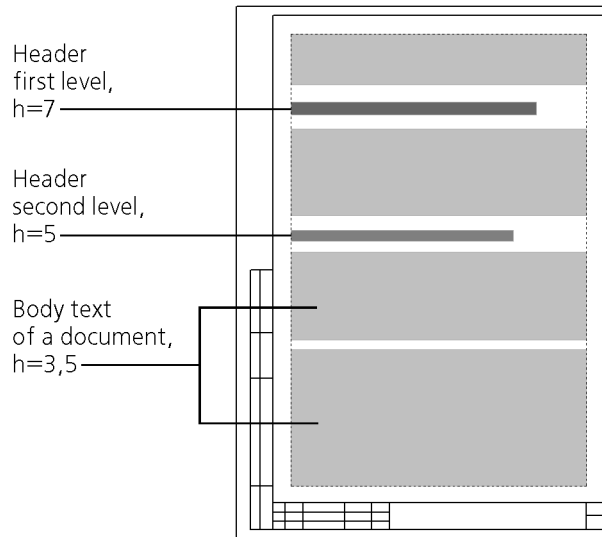

Fig. 9.6. Page layout
**3.2.2** Create text styles allowing formatting the documents in accordance with a layout model shown in Fig. 9.6. Non-italicized Arial Bold font must be used in styles.